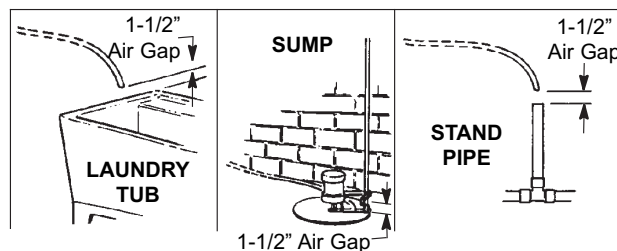

FIG. 4
- If installing a single bypass valve, push the bypass valve, with lubricated o-ring seals in place, into the valve inlet and outlet ports (See Figures 4 & 5).
- If installing a 3-valve bypass system, slide plastic installation adaptors, with lubricated o-ring seals in place, into the valve inlet and outlet ports (See Figure 4 & 5).
The house cold water pipe (metal only) is often used as a ground for the house electrical system. The 3-valve bypass type of installation, shown in Figure 4, will maintain ground continuity. If you use the plastic bypass, continuity is broken. To restore the ground, do either step **4a** or **4b** following.
- Take a length of 1/2" inside diameter hose and attach to the valve drain fitting, securing it with a hose clamp (See Figure 4 on page 6).
- Locate the other end of the hose at a suitable drain point (floor drain, sump, laundry tub, etc.). Check and comply with local codes. Refer to Figure 4 on page 6 if codes require a rigid pipe drain run.